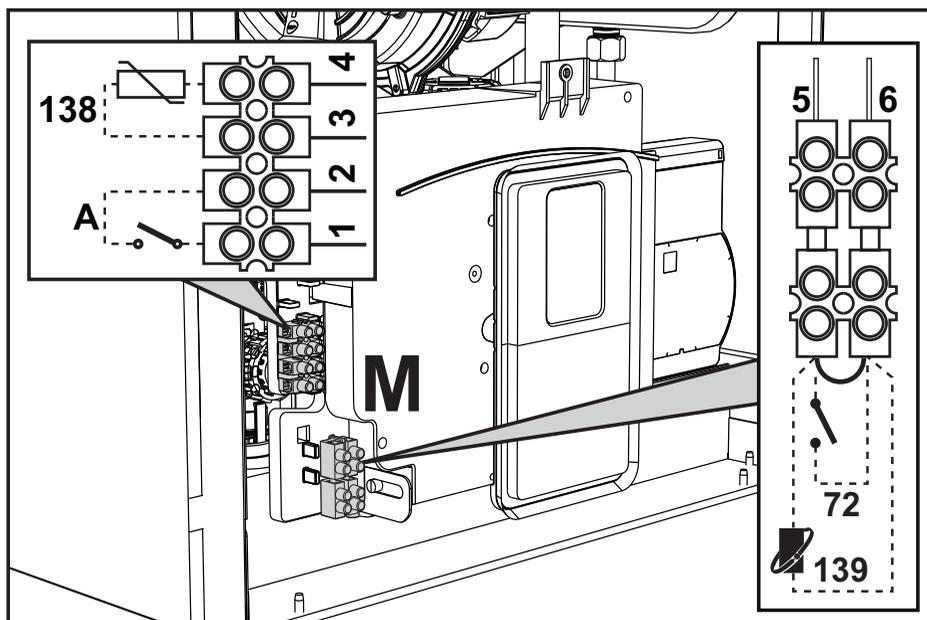

fig. 29
The terminals can be accessed after removing the front panel ("Opening the front panel" on page 411). **Terminals 1-2 and 5-6, indicated in fig. 29, must be with voltage-free contacts (not 230V)**. The arrangement of terminals for the various connections is also given in the wiring diagram in fig. 81.
2.5.5 ON/OFF switch configuration (ref. A in fig. 29)